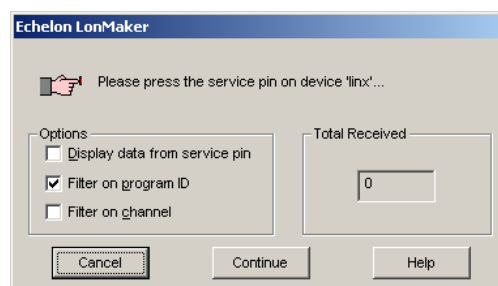

Figure 119: Wait for the service pin from the device.
7. Then the service pin requestor opens as shown in Figure 119. Press the service pin on the replacement device on the correct port. You can also send the service pin using the Web interface (see Section 4.1).